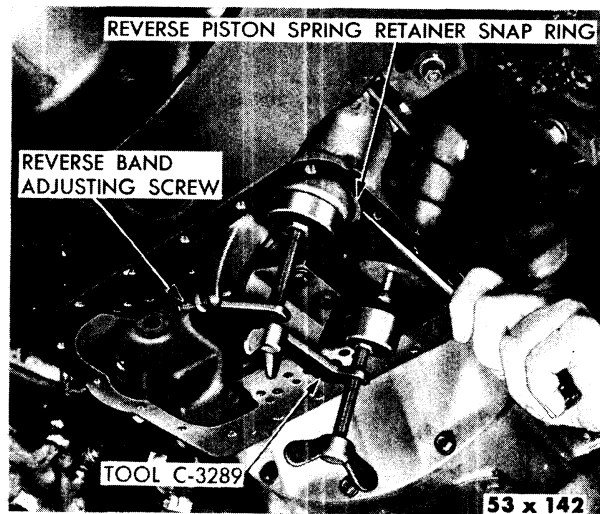

Fig. 45—Removing or Installing the Reverse Servo Piston Spring Retainer Snap Ring
- (3) Remove reverse servo piston sleeve.
- (4) Mount Tool C-3289 on transmission case and compress reverse piston spring retainer.
- (5) Using a screwdriver, remove the reverse servo piston and valve assembly spring retainer snap ring (Fig. 45) and loosen compressing part of tool.